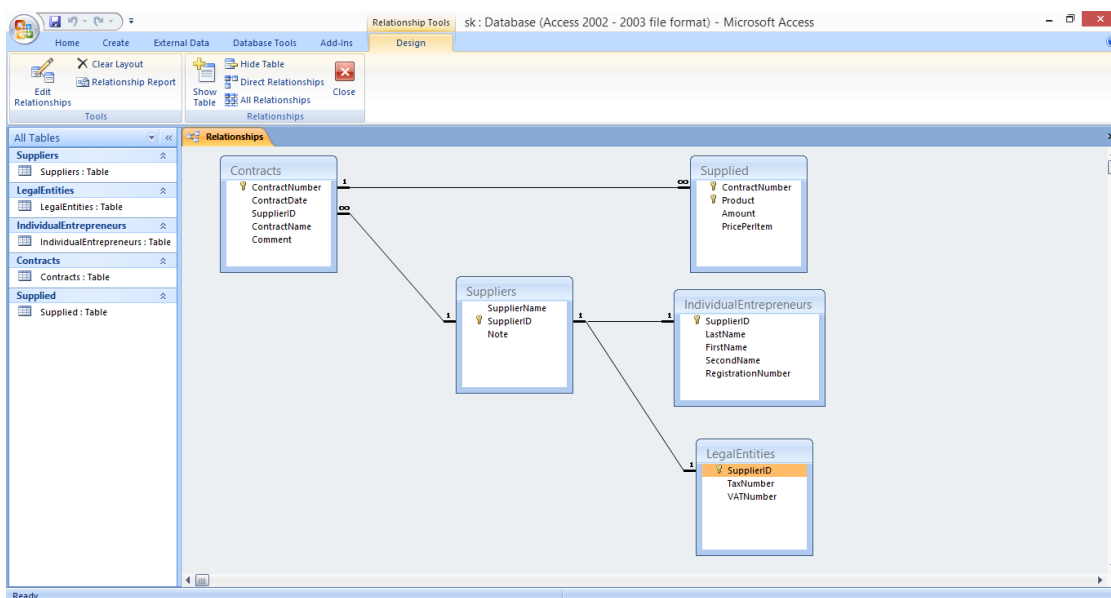

Figure 5
- 4) Drag the field “ContractNumber” of the table “Contracts” to the field “ContractNumber” of the table “Supplied”. As the result, relationship between tables will appear (figure 5);